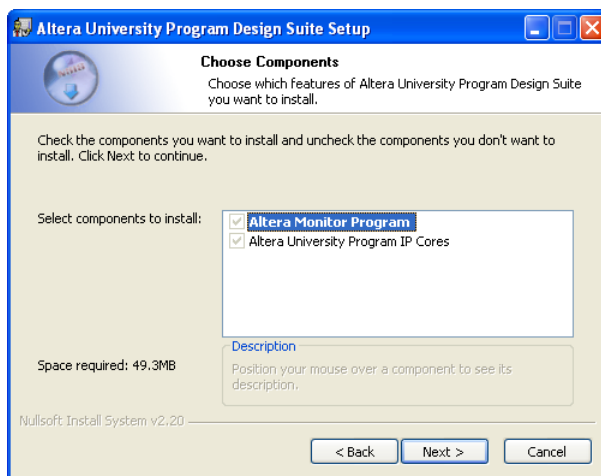
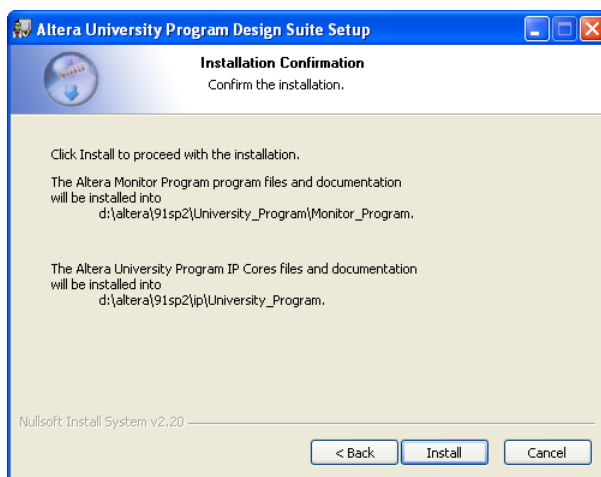

Figure 2. The components that will be installed.
Figure 3. The locations of directories where components will be installed.
4. The next screen, shown in Figure 2, lists the components that will be installed, which include the Monitor Program software and University Program IP Cores. The University Program IP Cores provide a number of I/O device circuits that are used in Nios II hardware systems. Click **Next** to open the window in Figure 3, which shows the locations where the Monitor Program and University Program IP Cores will be stored; these locations are based on the directory (folder) where the Quartus II software is installed, and cannot be changed.